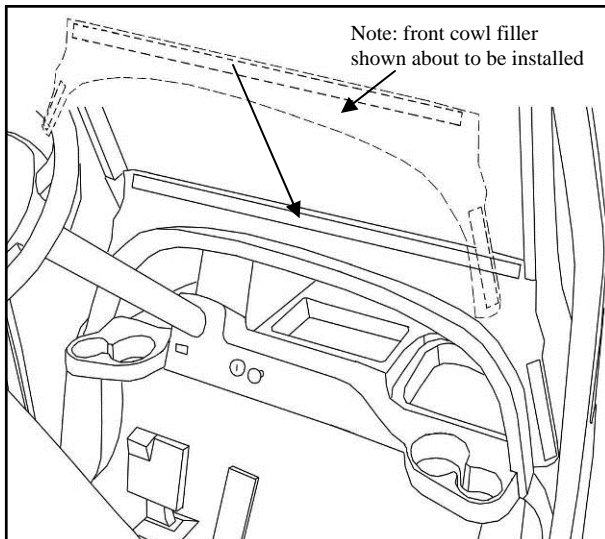

Figure 11: Install Front Cowl Filler
- 3.2. Install the supplied front cowl filler (black vinyl) to the inside surface of the lower windshield and the inside surfaces of the lower front panels. (Figure 11) Apply the supplied self-adhesive hook Velcro in three (3) locations corresponding to the location of the loop Velcro stitched onto the vinyl filler itself. (Note: adhesive backed Velcro should be applied to a clean, dry surface at room temperature.) (Ref.: 1 piece below bend in window and 2 pieces at 7" long on front legs)